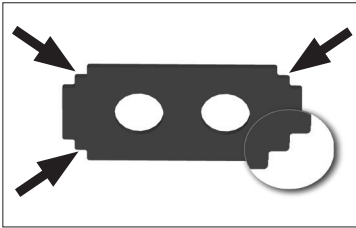
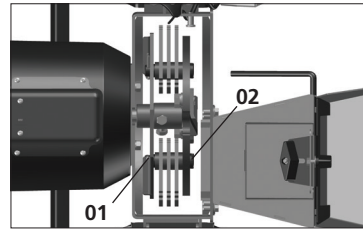

Fig. 23
Fig. 24
The shredding moveable hammers have teeth on all 4 sides [Fig. 23]. Change the usage position whenever you detect wear and change the hammers whenever all four sides are worn out. To alter the usage side remove the lock pins from the axis (1) and remove the released axis (2) through the funnel for green products the models TRE30, TRE40MA, TR40 and TRE40 or through the lid (model TR50). Then change the operating face of the hammers [Fig. 24]. If you remove one of the lock pins (1), please do not reuse it. Instead, replace it with a new lock pin to prevent accidents.